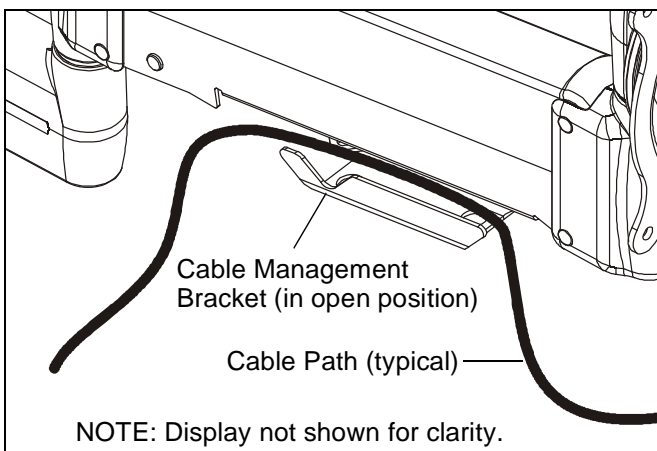

Figure 10
4. Carefully insert cables into bracket. (See Figure 10)